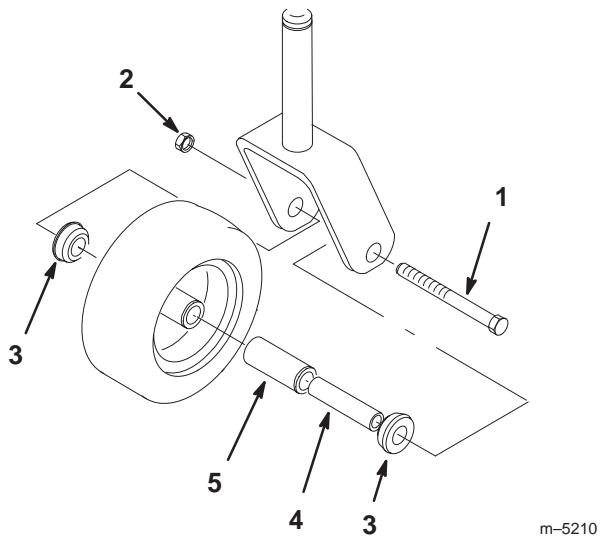

Figure 77
1. Remove the locknut and wheel bolt holding the caster wheel to the caster fork (Fig. 77).
2. Remove one bushing, then pull the spanner bushing and roller bearing out of the wheel hub (Fig. 77).
3. Remove the other bushing from the wheel hub and clean any grease and dirt from the wheel hub (Fig. 77).
4. Inspect the roller bearing, bushings, spanner bushing and inside of the wheel hub for wear. Replace any defective or worn parts (Fig. 77).
5. To assemble, place one bushing into the wheel hub. Grease the roller bearing and spanner bushing and slide them into the wheel hub. Place the second bushing into the wheel hub (Fig. 77).
6. Install the caster wheel into the caster fork and secure with the wheel bolt and locknut. Tighten the locknut until the spanner bushing bottoms against the inside of the caster forks (Fig. 77).